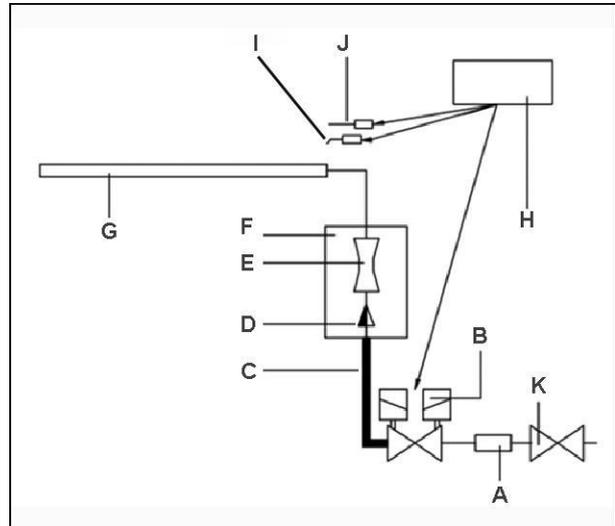

Fig. 1.1
**Diagram of the burner (Fig. 1.1)**
**Description of operation (Fig. 1.1 and 1.2)**